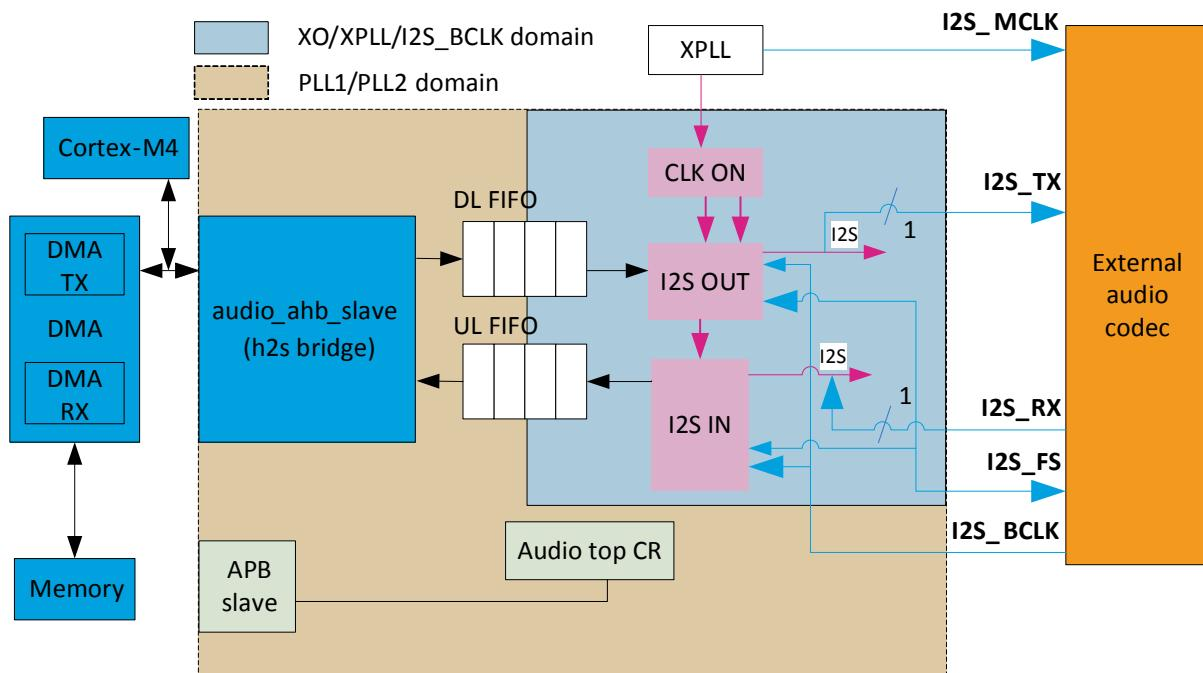

Figure 10.1-1. I2S block diagram
I2S0 is placed on AHB bus to support fast data transfers and has APB interface for setting the control register (CR). I2S0 contains CLK CON, I2S OUT, I2S IN, DL FIFO and UL FIFO. The block diagram is shown in Figure 10.1-1.